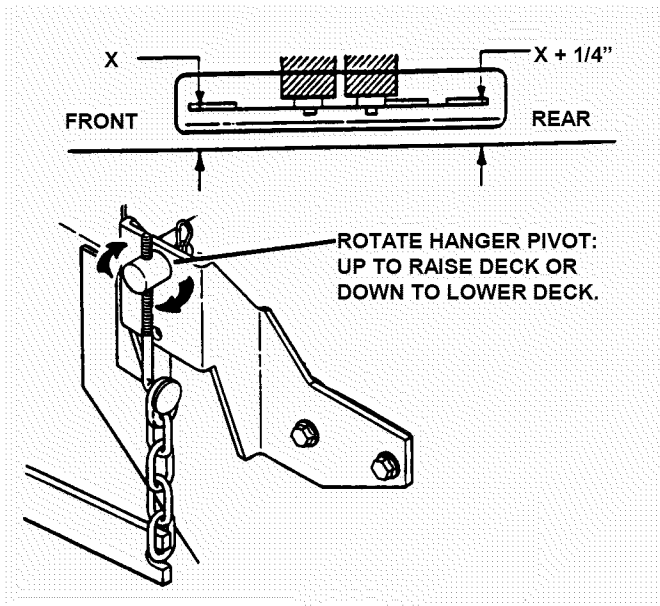

FIGURE 4.9
- b. Turn each hanger pivot the same number of rotations on the eye-bolt to raise or lower the rear of the deck. See Figure 4.9.